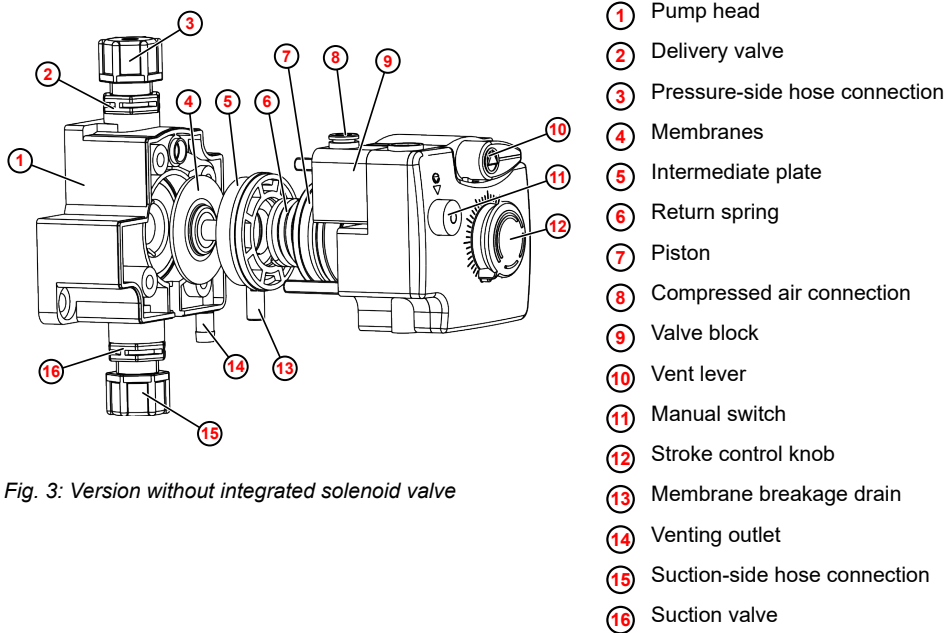

Fig. 3: Version without integrated solenoid valve
1. ➤ Connect NW 6 (2) to the hose nipple (1) on the venting overflow (Fig. 3 , (14)) and secure with hose clip if necessary.